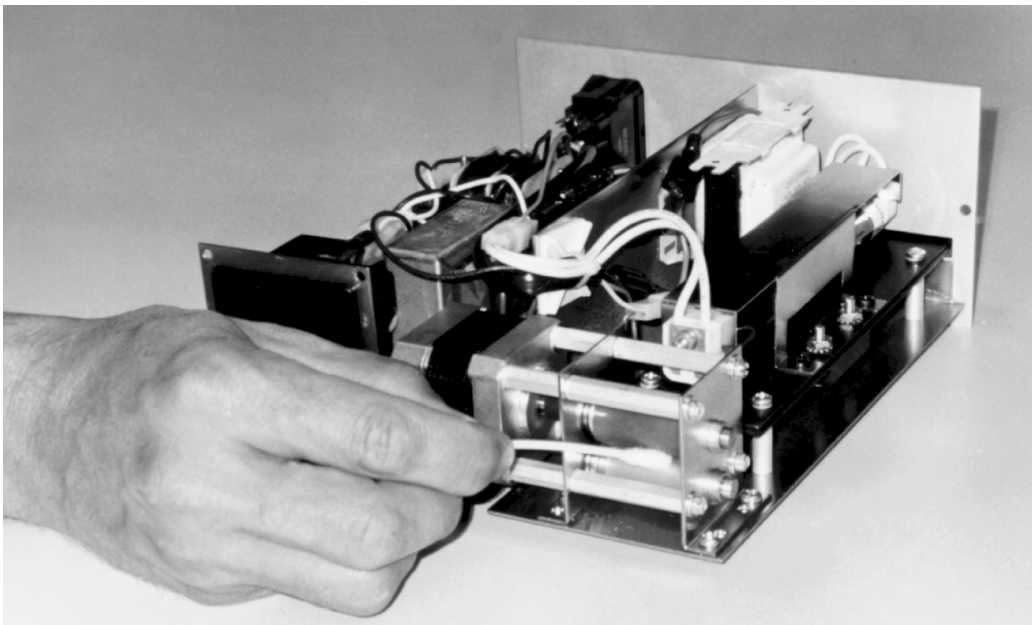

Figure 30 - Cleaning the Tape Rollers
4. Apply to the junction between the two rollers. See Figure 30. Wipe vigorously from side to side while slowly rotating the drive roller away from you. Continue this process until all tape residue and foreign material is removed from the rollers. Wipe with a dry cotton swab to remove any excess alcohol.